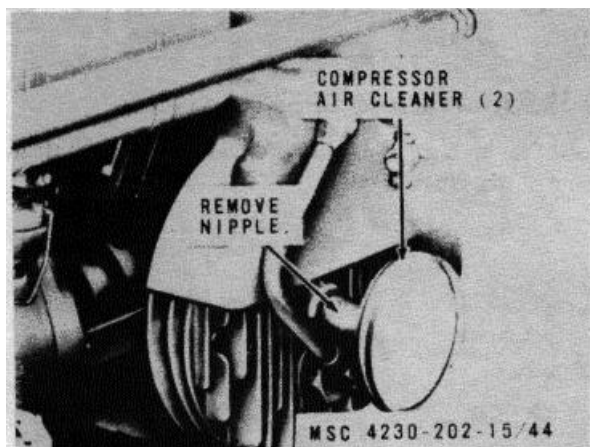

Figure 3-37. Compressor air cleaners, removal and installation
a. *Removal.* Refer to figure 3-37 and remove the compressor air cleaners.
c. *Installation.* Refer to figure 3-37 and install the compressor air cleaners.